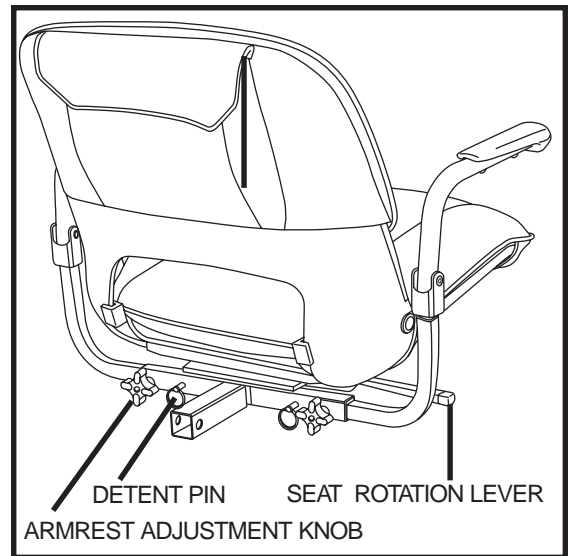

Figure 14. Seat Adjustment
1. Pull up on the seat rotation lever to unlock the seat. **See figure 14.**
1. Loosen the armrest adjustment knobs. **See figure 14.**